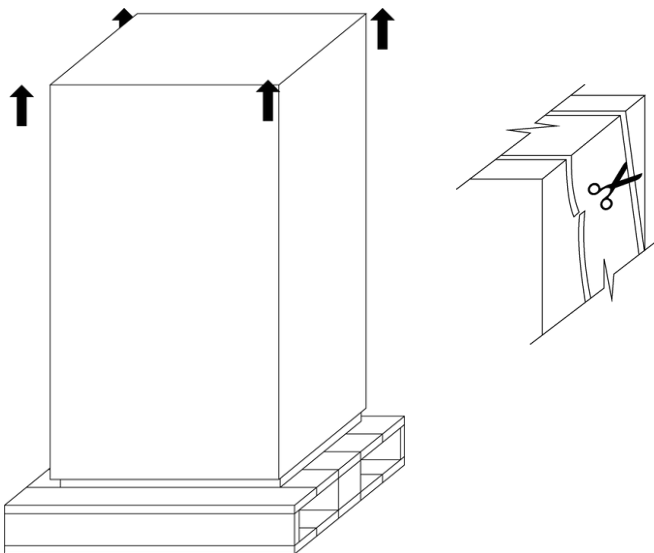

Fig 1 . Unpacking Process
- To unpack the cold plate firstly cut the straps then the box can be carefully sliding the box upwards. **(Fig 1)**